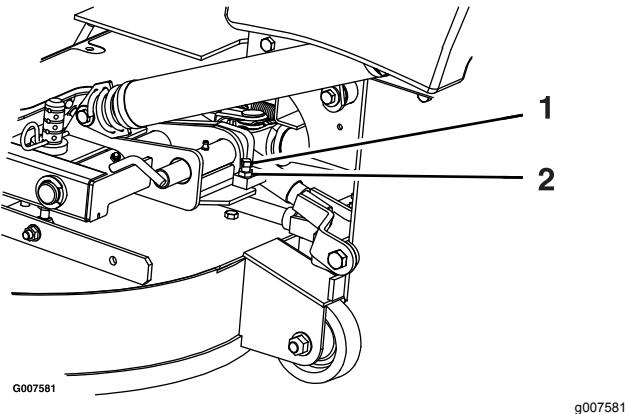

Figure 59
2. Loosen the jam nut and turn the stop screw clockwise until the locking pin is tight and cannot be rotated by hand (Figure 59).